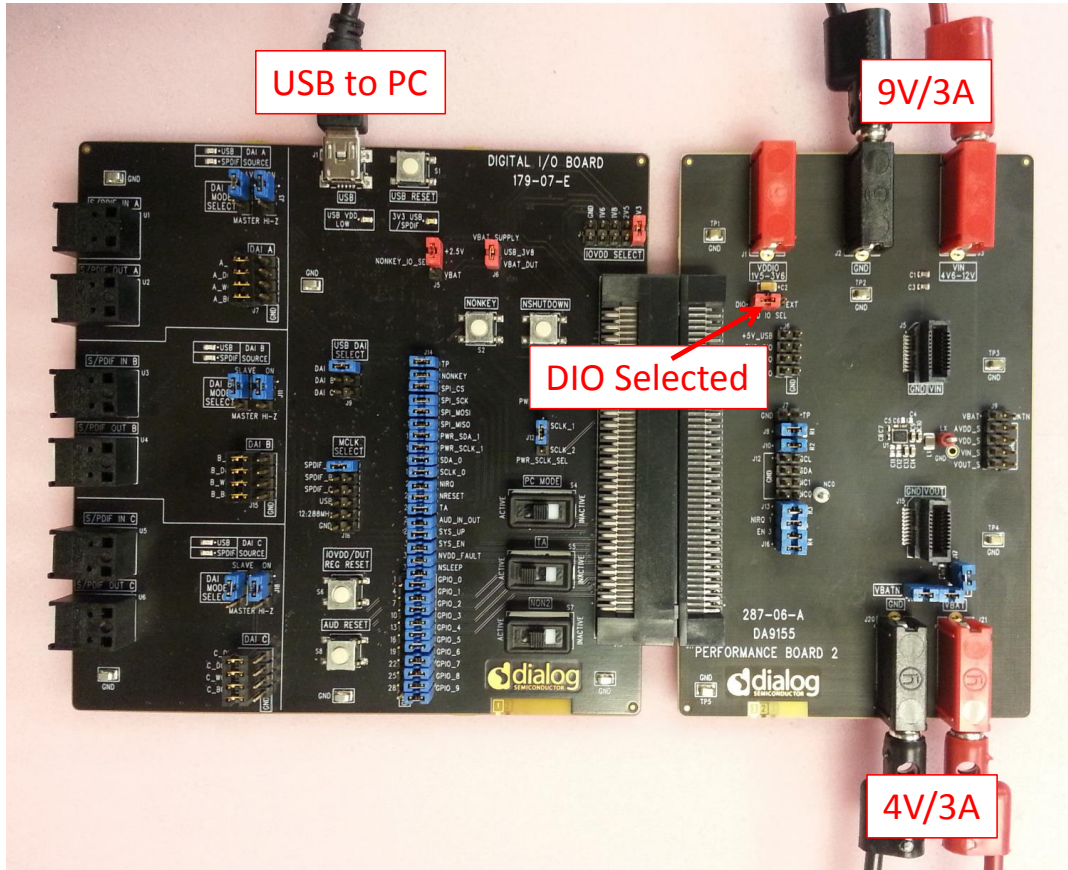

Figure 19: DA9155M Performance Board Full Setup
3. Set the VDDIO Voltage: The VDDIO voltage will be supplied by the DIO board, by selecting the VDDIO SEL jumper as shown in Figure 19, where header J4, is configured to short position pin 1 and 2 (the two closest to the interface connector).